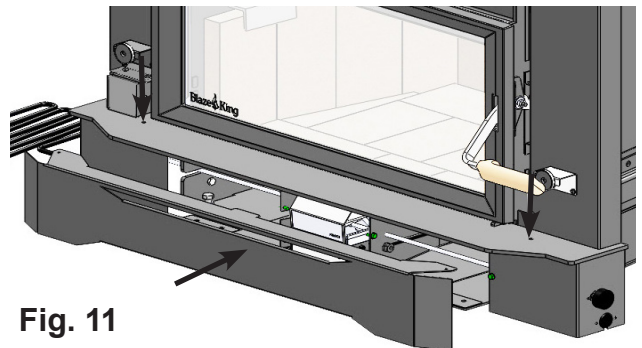

Fig. 11
4. Slide the lower shroud cover (the remaining component from the lower shroud kit) into the notches in the lower shroud body and fasten in place with the x2 screws supplied. (Fig. 11)